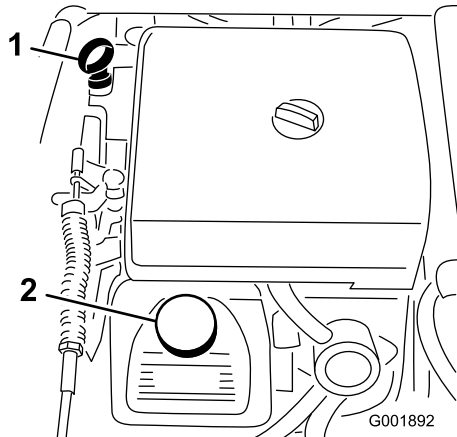

Figure 20
2. Remove the dipstick and wipe it with a clean rag (Figure 20). Insert the dipstick into the tube and make sure it is seated fully. Remove the dipstick and check the oil level.
3. If the oil level is low, remove the filler cap from the valve cover (Figure 20) and pour oil into the opening until the oil level is up to the Full mark on the dipstick; refer to Servicing Engine Oil, Engine Maintenance, page 42, for the proper oil type and viscosity. Add the oil slowly and check the level often during this process. Do not overfill.